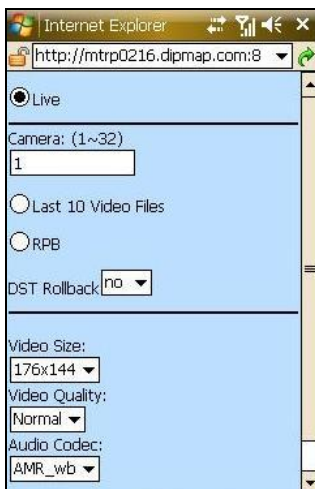

Figure 8-75
1. On the Settings page (see Figure 8-75), select **Rpb** and click **Submit**. This page appears.
1. On the Settings page (see Figure 8-75), select **Last 10 Video Files** and click **Submit**.